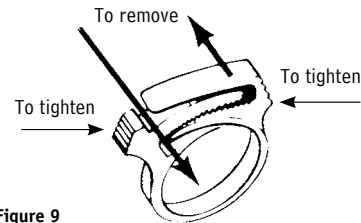

Figure 9
1. Remove nylon clamp from end of breathing tube (see Figure 9). Do not remove foam from inside the breathing tube. The foam helps reduce the noise level of incoming air.